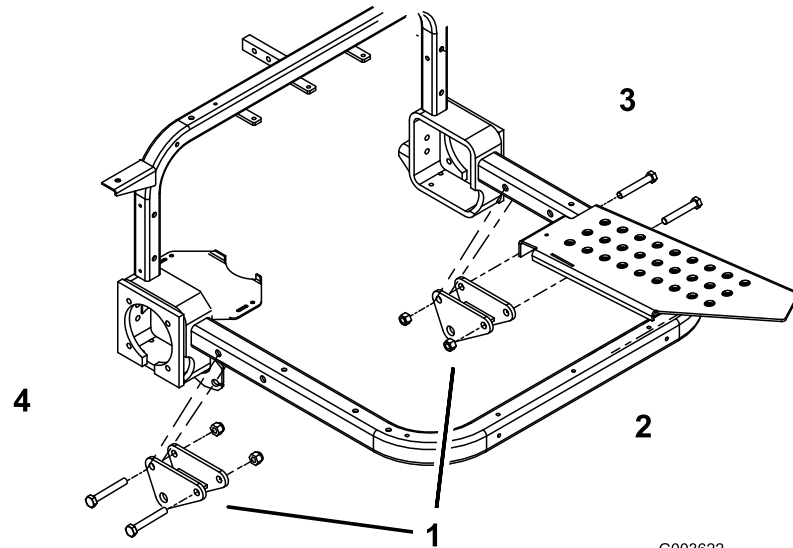

Figure 10
2. Loosely secure a mounting bracket assembly to the right and left foot rest tubes with 2 bolts (1/2 x 3-1/2 inches) and locknuts (1/2 inch). Position the mounting bracket assemblies and bolts as shown in Figure 10.